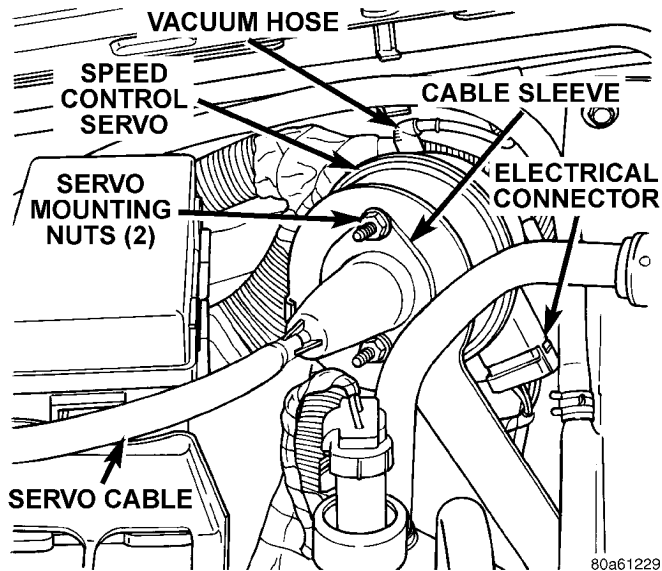
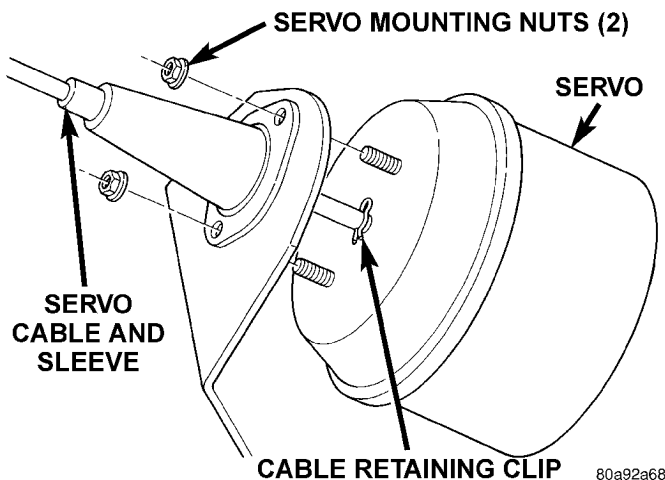

Fig. 3 Speed Control Servo Location
Fig. 4 Servo Cable Clip Remove/Install—Typical
- (1) Disconnect negative battery cable at battery.
- (2) Disconnect vacuum line at servo (Fig. 3).
- (3) Disconnect electrical connector at servo.
- (4) Disconnect servo cable at throttle body. Refer to Servo Cable Removal/Installation in this group.
(5) Remove 2 mounting nuts holding servo cable sleeve to bracket (Fig. 3) or (Fig. 4).
(6) Pull speed control cable sleeve and servo away from servo mounting bracket to expose cable retaining clip (Fig. 4) and remove clip. Note: The servo mounting bracket displayed in (Fig. 4) is a typical bracket and may/may not be applicable to this model vehicle.